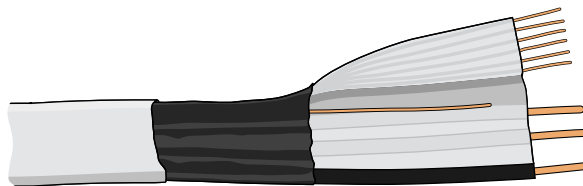

Figure 31-4 A typical cable consisting of ac power, telephone, coaxial cable, and low-voltage control conductors.
These systems are wired with special cables such as unshielded twisted pair (UTP), shielded twisted pair (STP), speaker wire, coaxial, fiber optic (FO), and cables that contain multiple types of conductors, as shown in Figure 31-4. The UL Standard refers to FO cables as *optical fiber cables*.